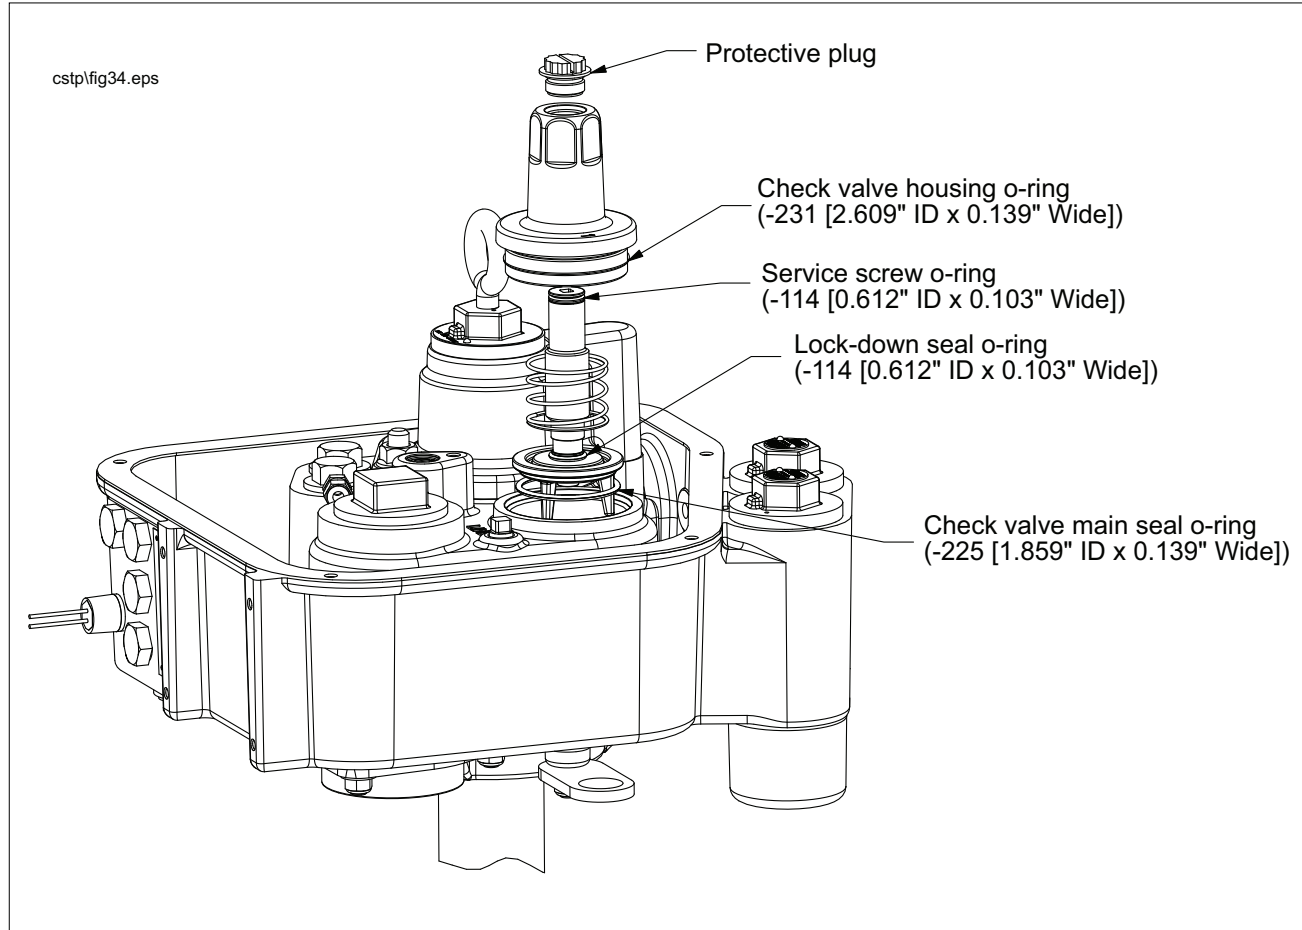

Figure 38. Inserting Check Valve Assembly Into Manifold
8. Unscrew the check valve housing. Lift the spring and check valve out of the manifold. Discard the o-ring from the housing and from the check valve (see Figure 38).